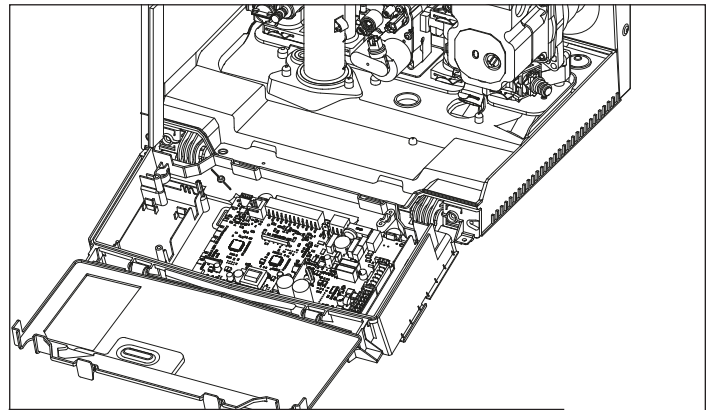

Figure 64 - 120V Connections for DHW and CH Circulators
6. Open the control panel cover to have access to the main PCB. See Figure 64.